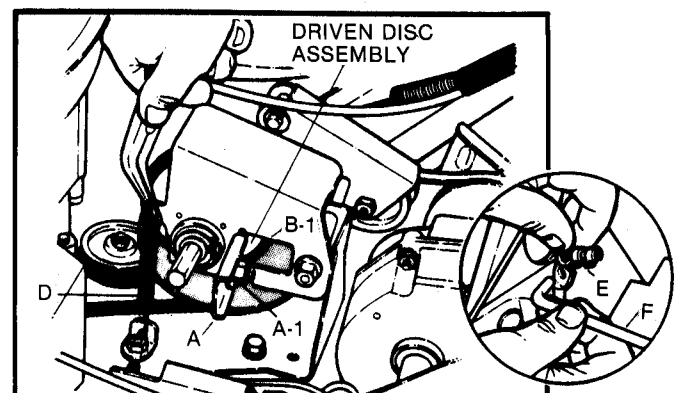

FIG. 14 -DRIVEN DISC ASSEMBLY
- Grease on drive disc (C)-causing slippage.
- Broken or disconnected DRIVE SPRING (D) (also refer to FIG. 14).
- Driven disc rubber ring (B-1) worn - not contacting drive disc (C) properly.
- Driven disc (B) out of adjustment
DRIVEN DISC REPLACEMENT: If the driven disc rubber ring (B-1) is found to be badly chunked or worn down to within $1/16"$ of the metal rim of the driven disc hub (B), it must be replaced. Remove the clip (E) at end of speed control rod, and then turn the transfer rod (F) to a upright (vertical) position and detach from the connector (A) (FIG. 14 & 15). Unhook drive spring (D) (use needle nose pliers) and slide the driven disc assembly off hex-shaft.